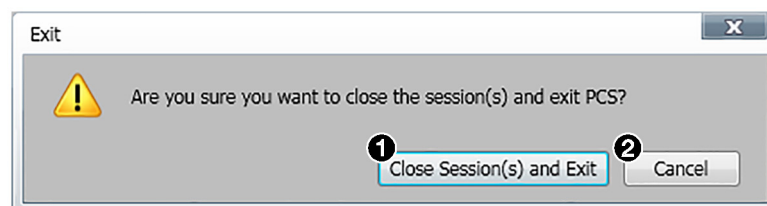

Figure 44. Exit Dialog Box
2. If necessary, click the **Close Session(s) and Exit** button (see figure 44, ①) to disconnect the software from connected devices, close all offline device tabs, and close the software. Click the **Cancel** button (②) to leave the software open.